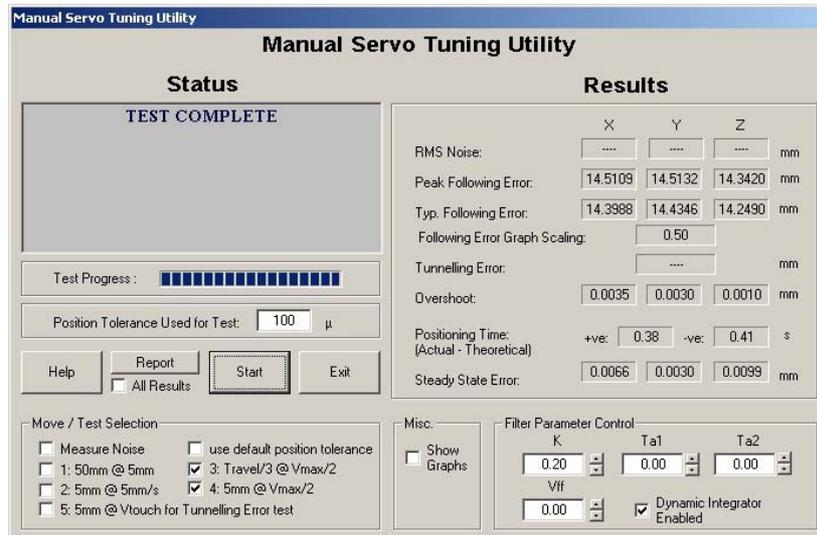

Figure 17
2. Select tests 3 and 4 as shown in figure 17 below:
3. Click the Start button to run the selected tests initially with no value in the Vff input box. When the test has completed note the values of peak following error and overshoot for all axes. The results shown in figure 17 show a low value for the overshoot but a high following error.